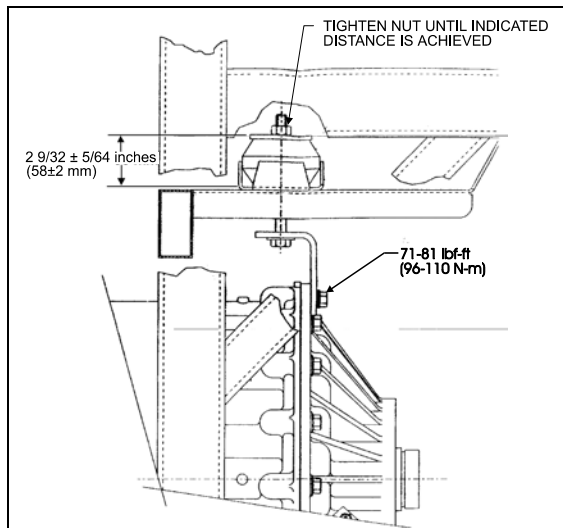

FIGURE 17: RUBBER DAMPER TOLERANCE 07014
- a) Install transmission bracket (Fig. 17), tighten to 71-81 lbf•ft (96-110 N•m).
- c) Respect damper tolerance of 58 mm (Fig. 17).